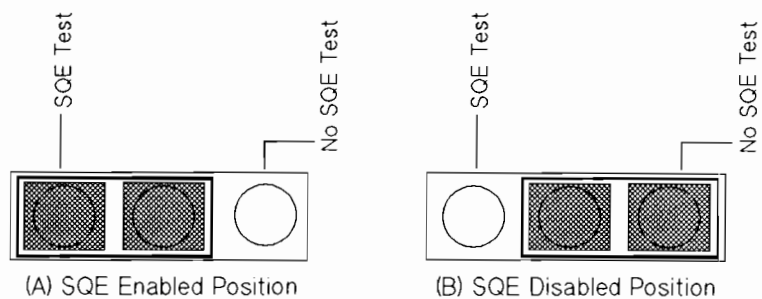

Figure 3-2. SQE Jumper Position
A jumper shorting clip is installed at the factory in the “SQE TEST” position which *enables* the SQE test signal. As you hold the card by the extractor handles, the shorting clip is positioned on the left side of the three-post jumper, Figure 3-2(A). All IEEE 802.3 installations should have the jumper in this position.
To *disable* the SQE test signal, move the jumper shorting clip to the “NO SQE TEST” position, or the right side of the three-post jumper, Figure 3-2(B).
3. Replace the shorting clip by moving it one jumper post to the right and sliding it down onto the jumper posts labeled "NO SQE TEST" leaving the leftmost pin exposed. See Figure 3-2(B).